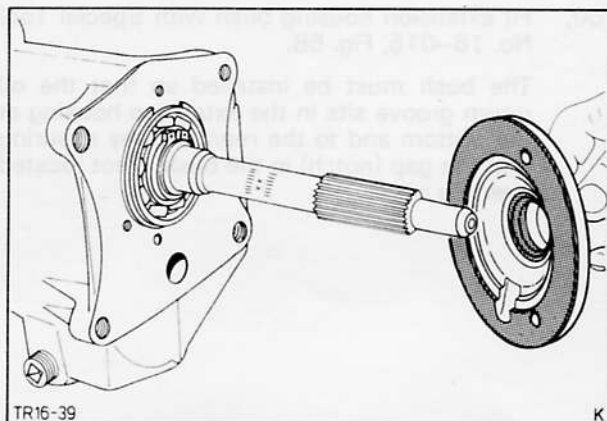

Fig. 55. Fit main drive gear bearing retainer
47. Fit main drive gear bearing retainer with a new gasket, Fig. 55.